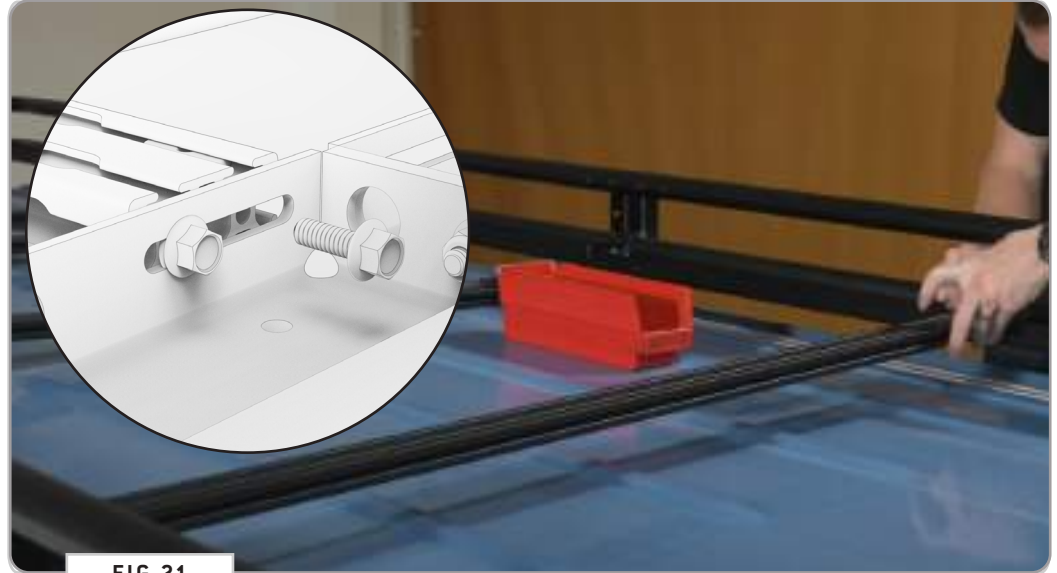
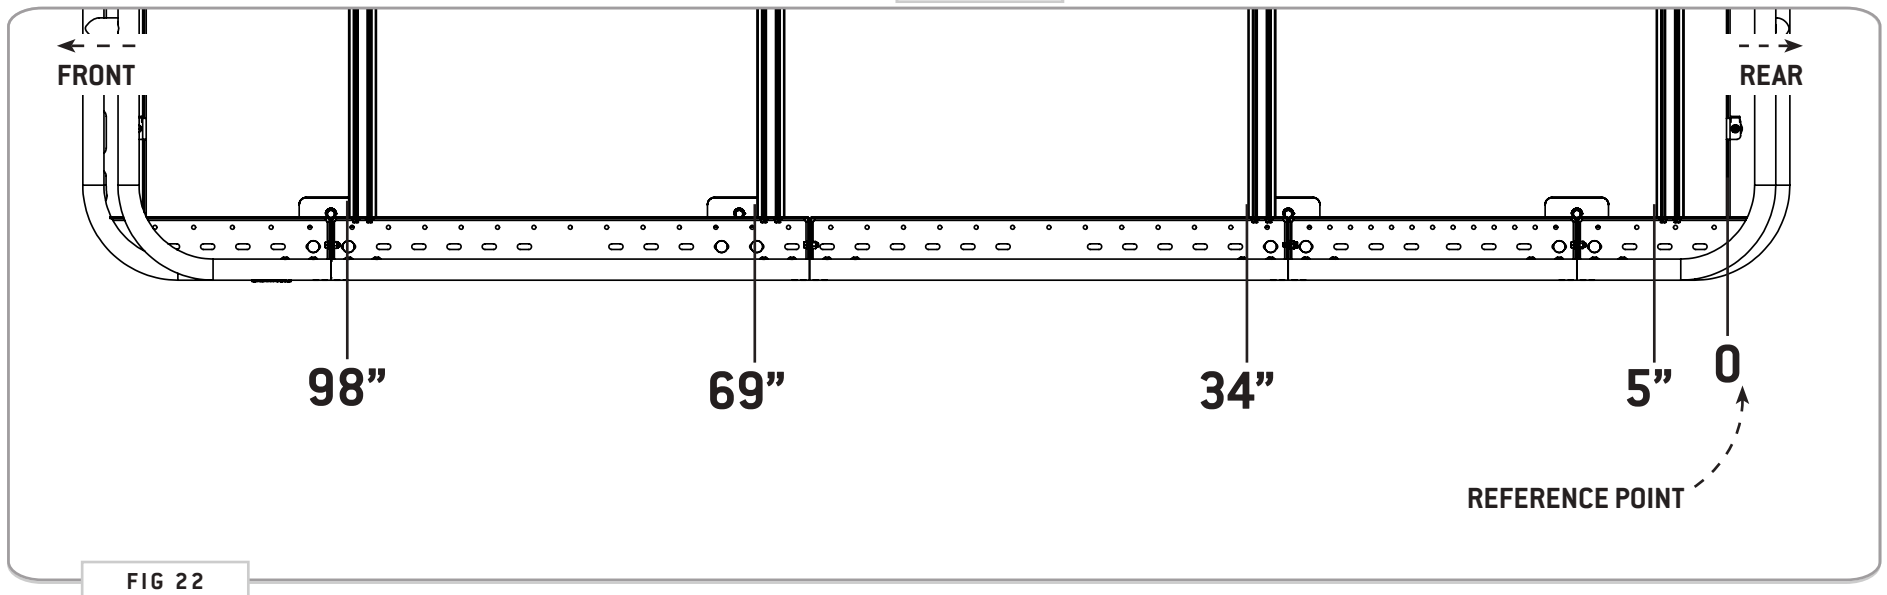

FIG 21
FIG 22
**9.1 Attach Crossbars:** Using [4ea] 1/4-20 Flanged Hex Bolts with Loctite (FIG 21), attach Crossbars to the rack in the locations shown in FIG 22. Be sure to measure both sides to ensure that the crossbars are square.